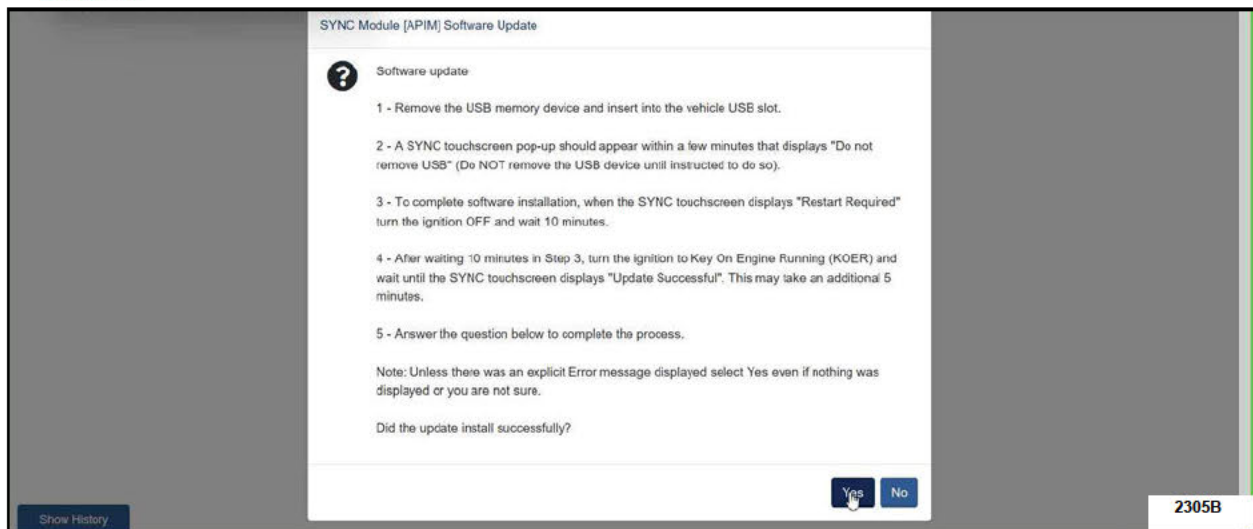

FIGURE 2
9. Continue to follow all on-screen instructions carefully until the following screen is reached. See Figure 2.
10. Complete Steps 1 and 2 as shown on the screen in Figure 2. **For Step 3**, to complete software installation, when the SYNC touchscreen displays "Restart Required" turn the ignition OFF, **open and close the driver's door**, and wait 10 minutes.
11. After 10 minutes continue with the remaining steps shown in Figure 2.